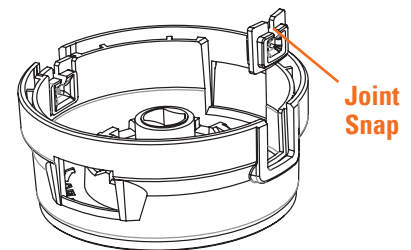

Figure 7
3. Attach the joint snap into the spool housing (see Figure 7).